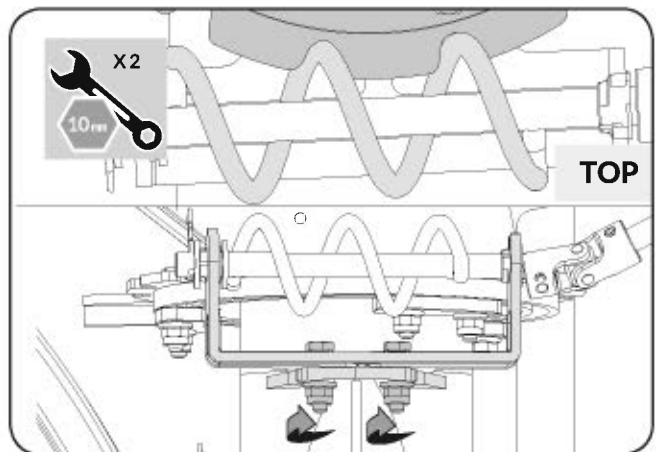

Figure 5b
- Make sure the spiral at the bottom fully engages with the chute crank flange (See **Figure 5b TOP**) and tighten the two bolts on the chute bracket. (See **Figure 5b**)